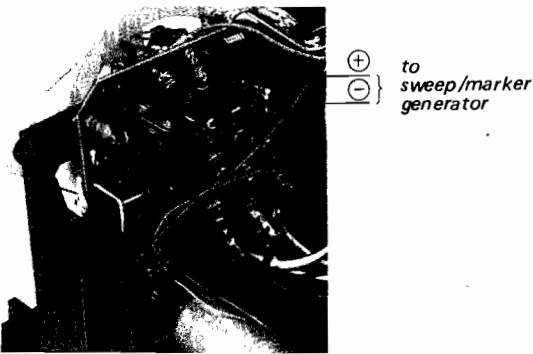

Fig. 3-2 Sweep/marker generator connection
1. Sweep/marker Generator Connection: Across the tuning capacitor as shown in Fig. 3-2.